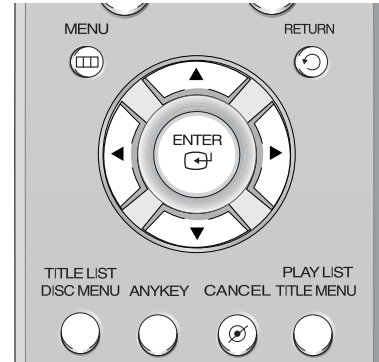

Fig. 3-2 Remote Control
- 4) Press the **ENTER** button on the remote control (Fig. 3-2).